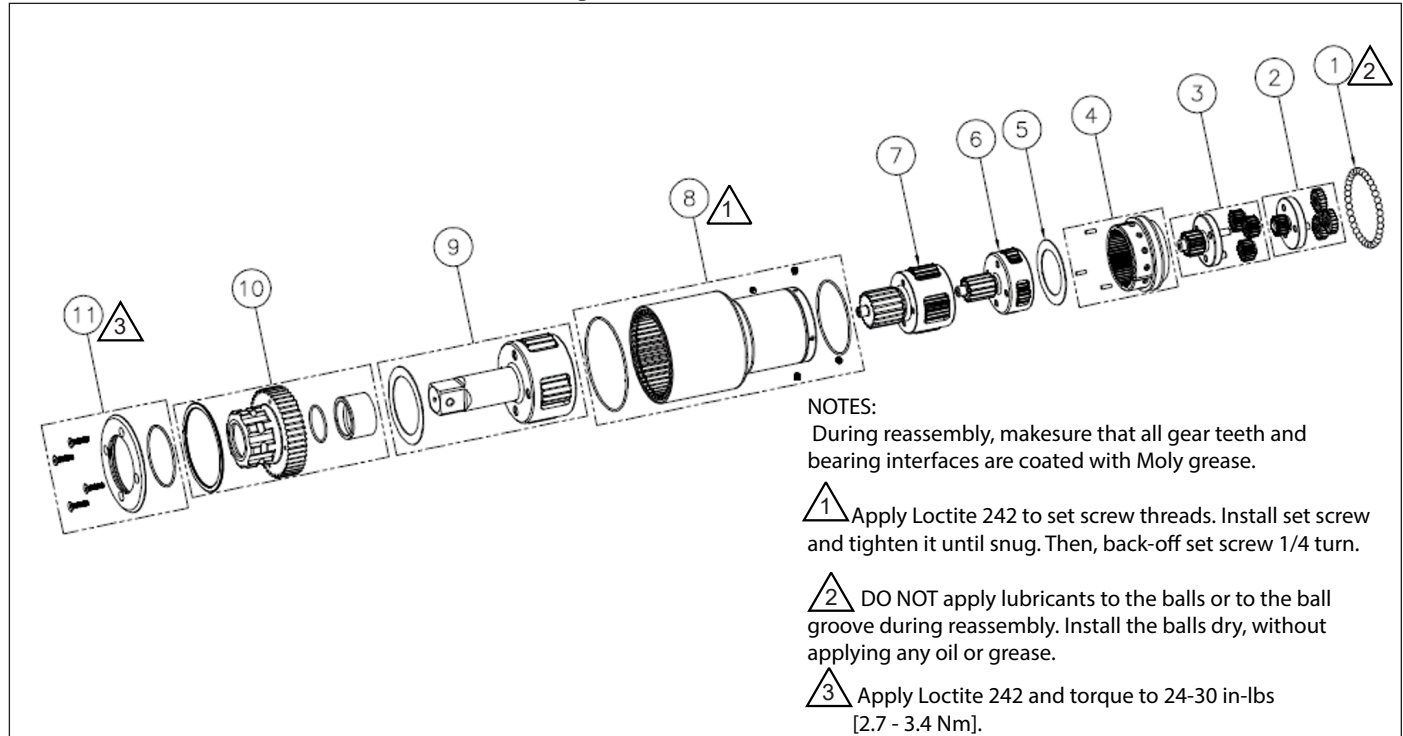

Figure 12: TW3000SR Gearbox Assembly
9.6.1 Table of Parts (Figure 12)